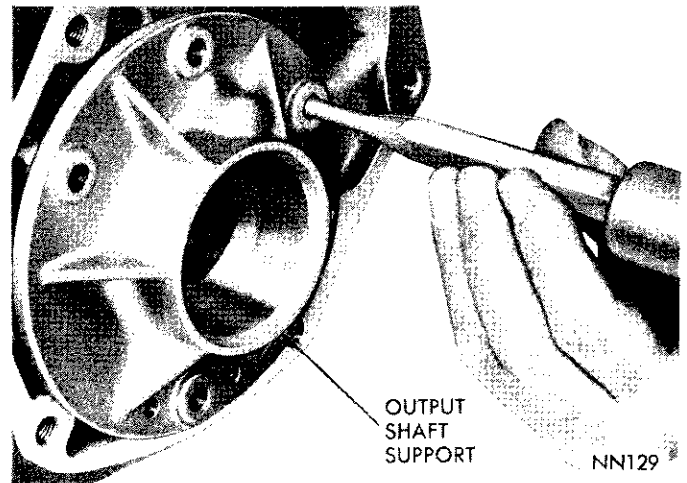

Fig. 66—Removing Overrunning Clutch Cam (A-727)
(1) Remove set screw from case below the clutch cam.
(2) Remove four bolts securing output shaft support to rear of the transmission case. Insert a punch through the bolt holes and drive cam from the case (Fig. 66). Alternate the punch from one bolt hole to another so cam will be driven evenly from the case.